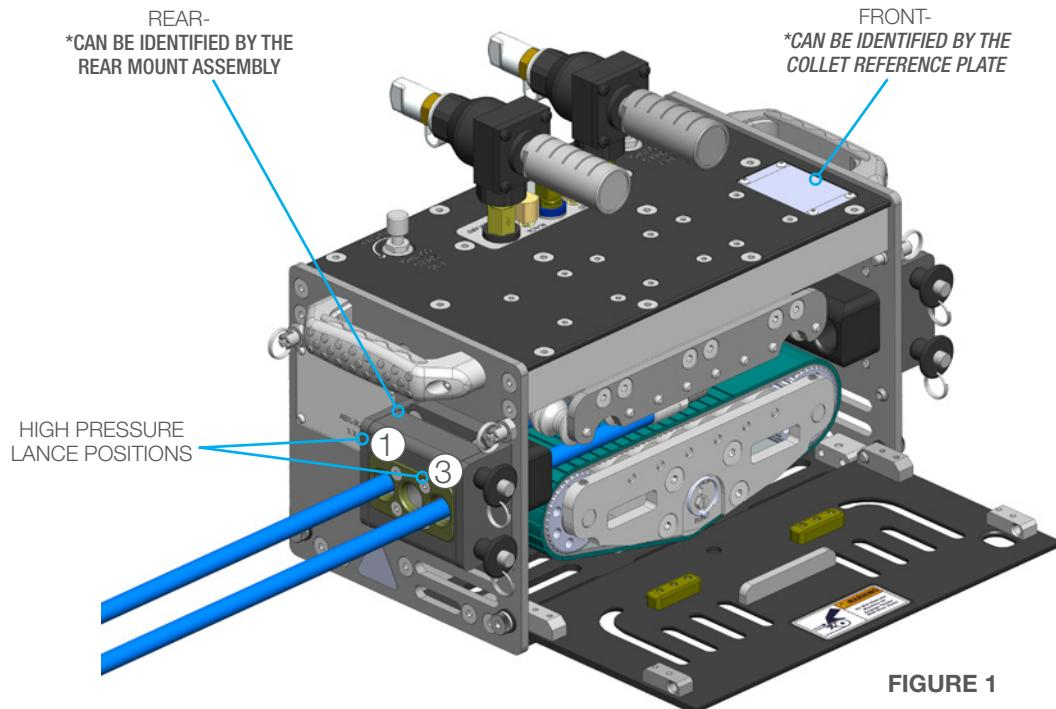

FIGURE 1
1. Load lances into positions 1 and 3 at the Rear of the Tractor, leaving the middle port empty. Push through the Tractor until enough has been fed to load the Air Knife and Snout Adapters. (**Figure 1**)